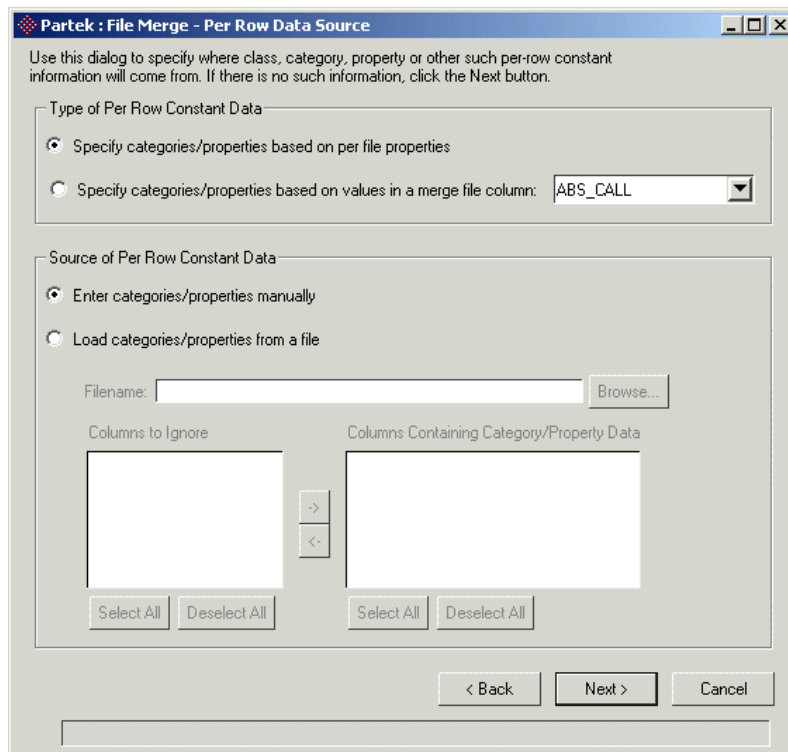

Figure 4. 64: Specifying sample properties
- Select the **Properties** column by clicking on it and click the **Delete Selected Property Columns** button since no sample information will be added at this time (Figure 4. 65)